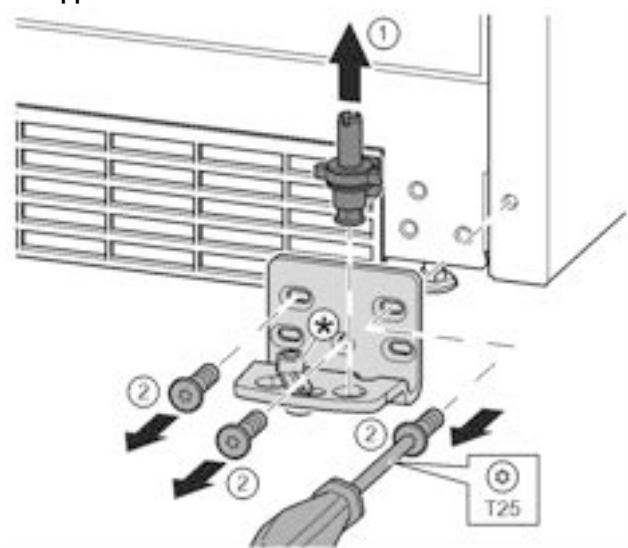

Fig. 15
- ▶ Lift the bearing pin completely upward and remove. Fig. 15 (1)
- ▶ Undo the screws with a T25 screwdriver and remove the bearing bracket Fig. 15 (2)